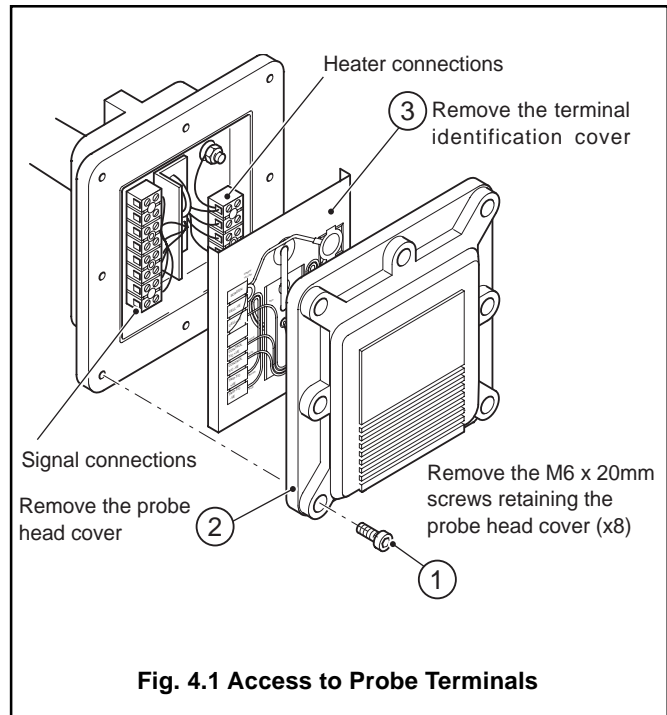

Fig. 4.1 Access to Probe Terminals
4.2.1 Access to Probe Terminals – Fig. 4.1